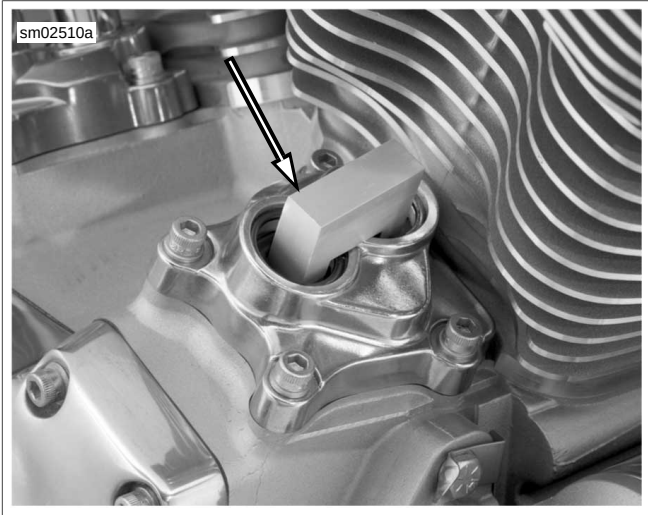

Figure 3-90. SCREAMIN' EAGLE Magnetic Lifter Holder
2. See Figure 3-90. Support lifters using SCREAMIN' EAGLE MAGNETIC LIFTER HOLDERS (Part No. 93979-10).